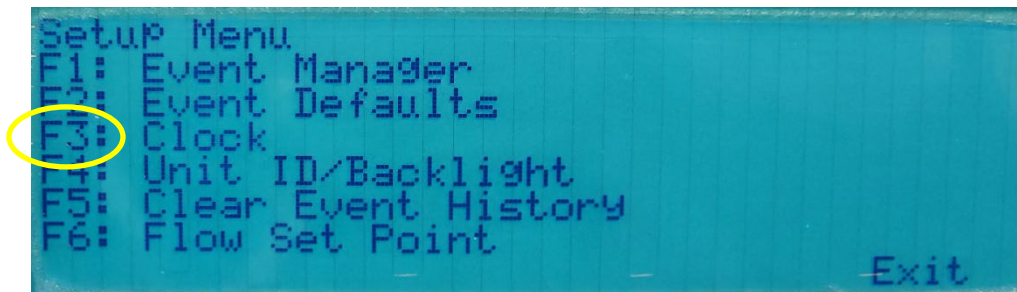

Figure 13: Setup Menu
3.2.2 Press "F3" on the control panel to enter the clock menu (Figure 13).